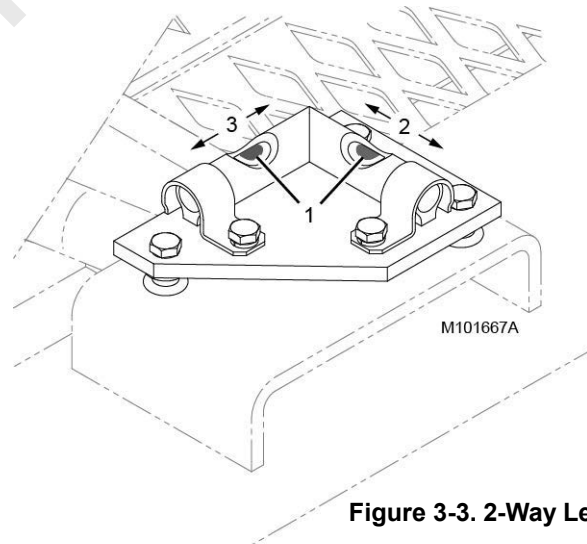

Figure 3-3. 2-Way Level
The 2-way level (Figure 3-3) indicates crane levelness from front-to-rear (2) and from side-to-side (3).
- The crane is level when the bubbles (1) are centered in the glass.
- The crane is approximately one percent of grade out of level in the corresponding direction when half of a bubble (1) is off center.